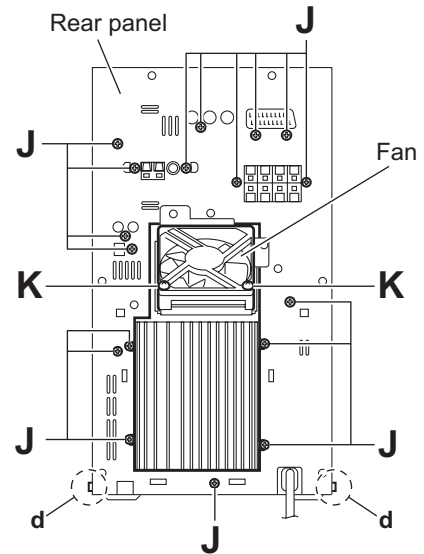

Fig.12-1
- (5) Remove the seventeen screws **J** attaching the rear panel. (See Fig.12-1.) **[B/E/EN/EV/EE version]**
- (7) From the both sides of the main body, release the joints **d** attaching the rear panel to the chassis base and remove the rear panel with the fan. (See Fig.12-1 or 12-2.)
- (4) Remove the two screws **K** attaching the fan. (See Fig.12-1 or 12-2.)
- (5) Take out the fan from the main body.